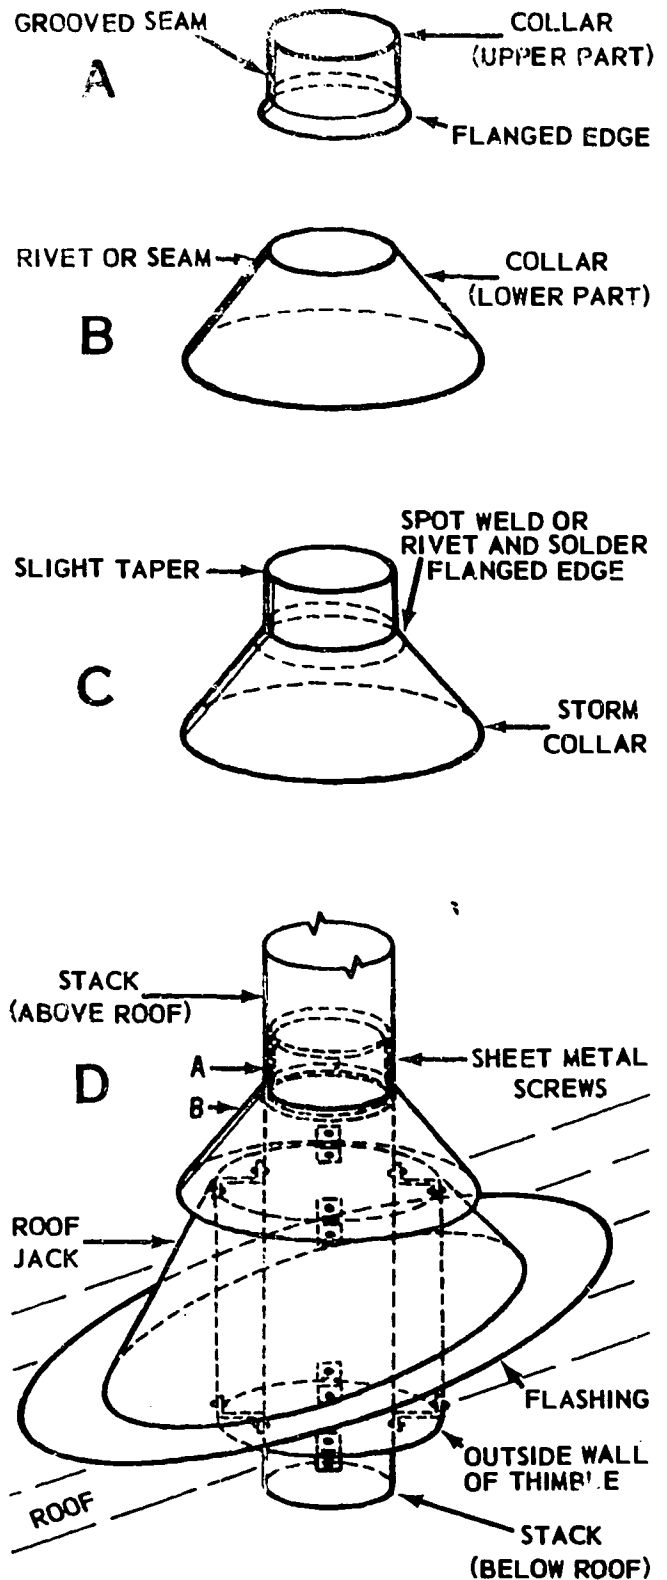

Figure 5-6. Storm collar, roof jack and double-wall thimble.
**Roof Jacks.** A roof jack, like the one shown in figure 5-6, is the part of a vent system that is attached to the roof to weatherproof the opening through which the stack passes. Roof jacks may be fabricated or
purchased "ready made" for different sizes of vent stacks and roofs of a different pitch. (The roof jack in foldout 2 is for a flat roof.) The dimensions for roof jacks are shown on the drawings, or if you are replacing one, you can take the dimensions from the old roof jack. As you can see in figure 5-6, the base of the roof jack acts as a flashing and secures the jack to the roof deck.
**Storm Collars.** A storm collar is the part of a stack assembly that prevents leaks around the top of a roof jack. Storm collars used on double-wall vent pipe are usually purchased as "ready-made" items, but storm collars for single-wall vent pipe are usually fabricated in the shop. To make a storm collar, obtain the correct dimensions from a drawing, or the old collar. Using the proper dimensions, make piece A, as shown in figure 5-6, with a slight taper so that the top stack will fit over it; then turn a flange about 3/8-inch wide on the bottom at the angle of the collar. Next, make piece B and join A and B to make C (fig. 5-6). Spot-weld or rivet the joint and then solder it to prevent leakage.
Now you can install the collar as shown in view D of figure 5-6. With the thimble installed on the roof jack, the top of the outside piece of the thimble should fit flush with the top of the roof jack. The storm collar should completely cover the top of the thimble opening to prevent rain from blowing in through the airspace. In view D of figure 5-6, you can see that the vent stack above the roof is installed through the storm collar with a tight fit to prevent rain from entering. Each component is installed over the part below it to completely cover the seams in the assembly.